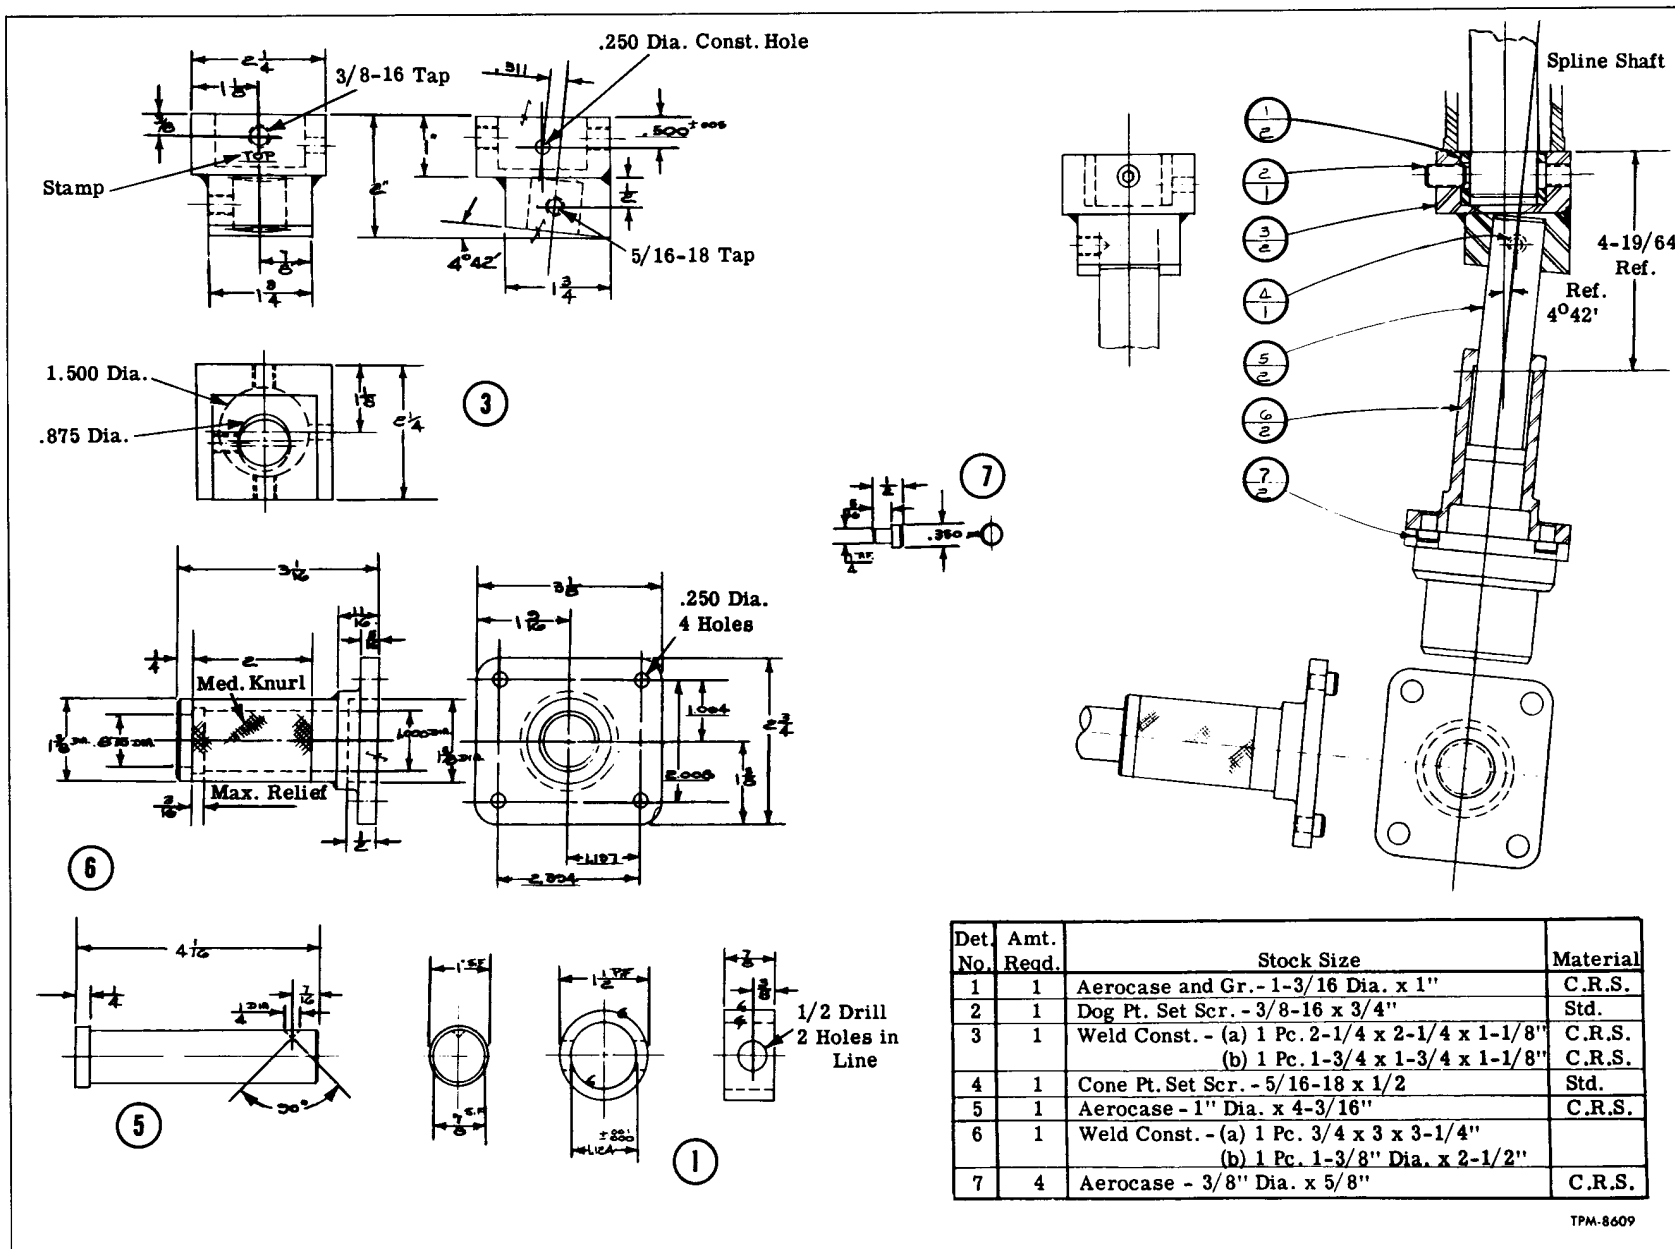
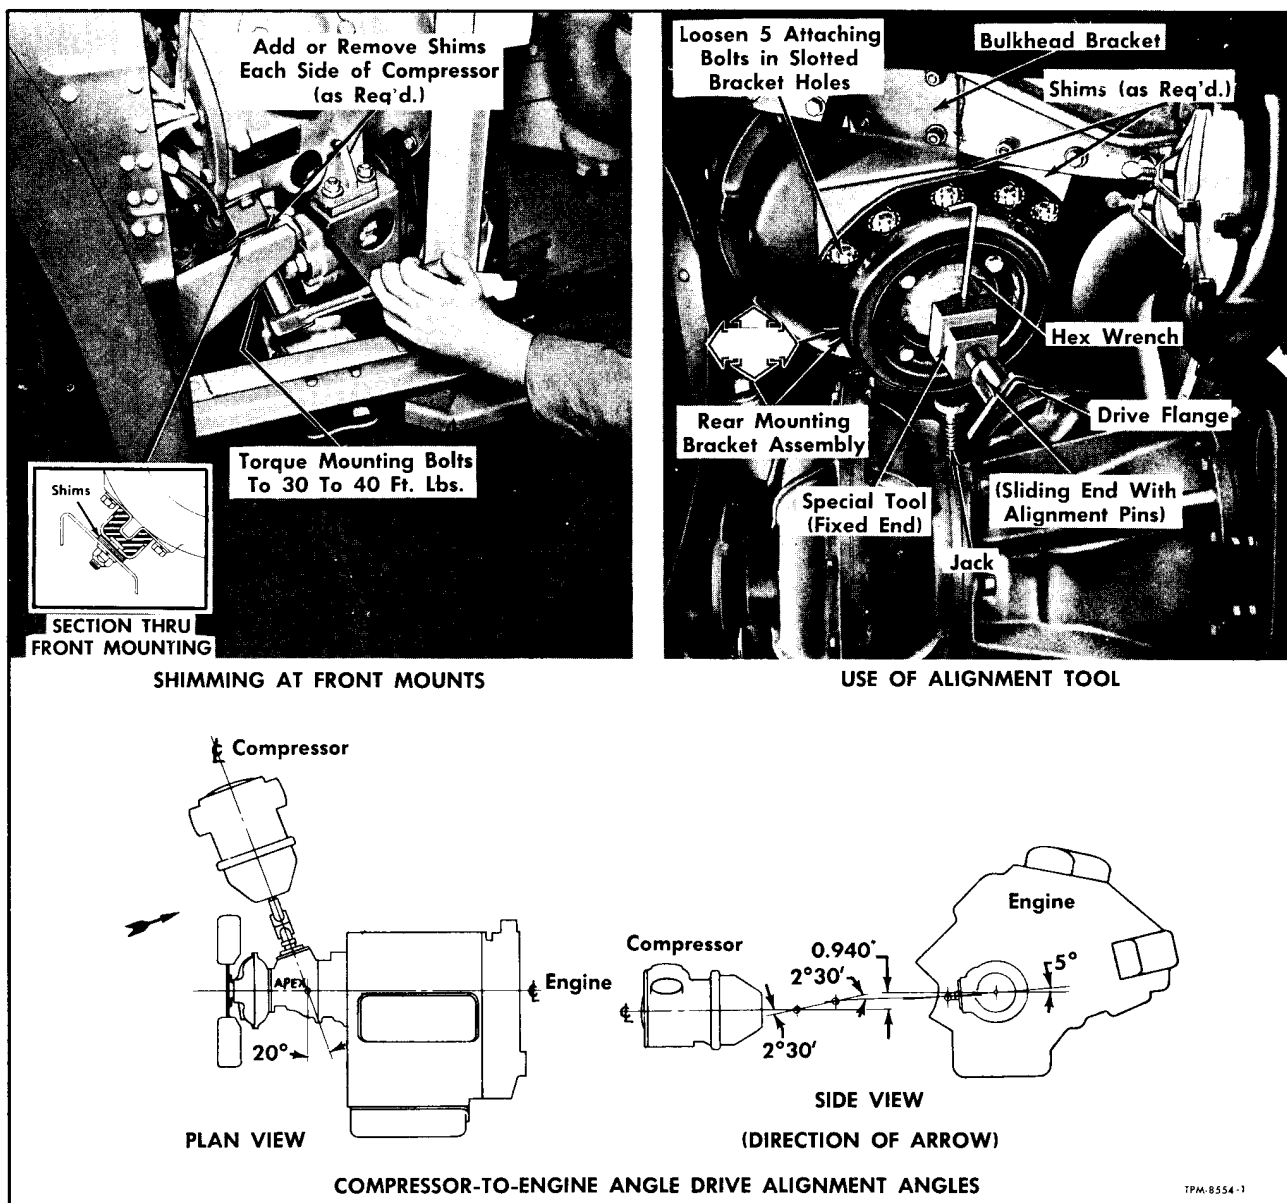

Figure 38—Dimensions of Alignment Tool
Figure 39—Aligning Compressor Using Special Tool
Tool consists of two telescopic parts which when installed on splines of clutch shaft, then extended freely to center on engine angle drive flange, will provide the necessary alignment check. Tool can be improvised locally. Figure 38 shows the dimensions and other necessary specifications of tool. Design of tool is to provide accurate check of compressor-to-engine drive angles shown in Lower View of figure 39.
8. To check existing alignment, place end of tool having a set screw over splines of compressor clutch shaft. See figure 39. Tighten set screw, then rotate shaft UNTIL TOOL SET SCREW IS LOCATED AT THE TOP. Without rotating clutch shaft, extend free end of tool and if necessary, rotate this end so that tool pins can be inserted or engaged into engine drive flange bolt holes. If it is impossible to engage pins, the compressor will have to be repositioned on one or all three of its mountings.
11. Place a jack under compressor drive end mounting ring as shown in Right View of figure 39 to support this end into alignment. NOTE: A pry bar used in such a manner as to not damage parts can be used for shifting compressor as desired.
12. At front end of compressor, add or remove shims between mounting cushion and mounting bracket (Left View, fig. 39) to obtain proper alignment.